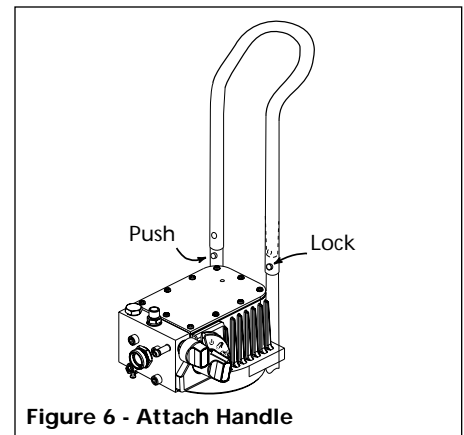

Figure 6 - Attach Handle
7. Stand behind the unit and reach over the handle to grip the ends at the bottom of the handle. Using your thumb and forefinger, depress the Valco Snaps and gently push down on the handle until it starts over the snaps. Then move your hands to the top of the handle and push it the rest of the way down (See Figure 6).